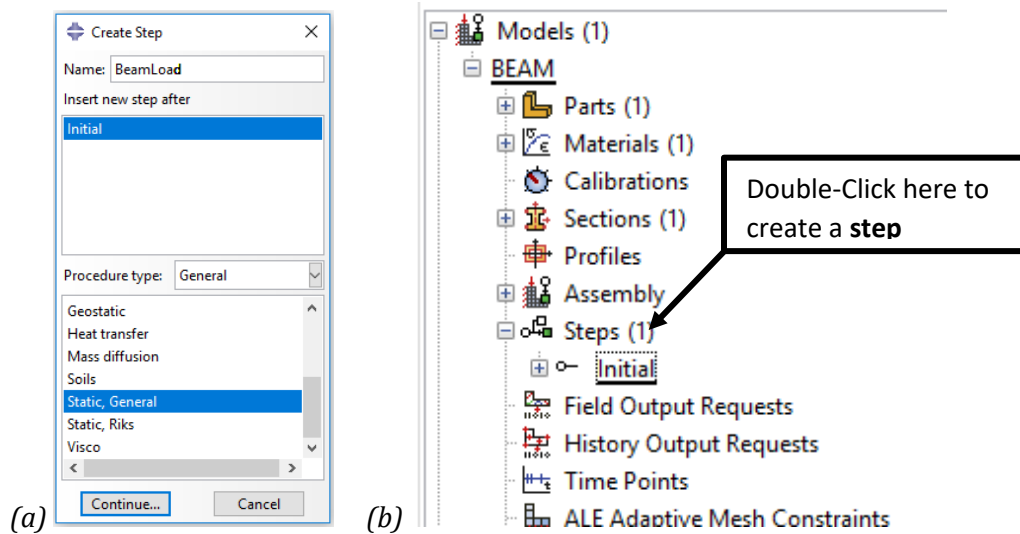

Figure 1-16 – (a) The Create Step dialog box and (b) the Model Tree.
1. In the **Model Tree**, double-click **Steps** to create a new step in the model **BEAM**. See Figure 1-16 (b).
Abaqus/CAE switches to the Step module, and the **Create Step** dialog box appears, shown in Figure 1-16(a).